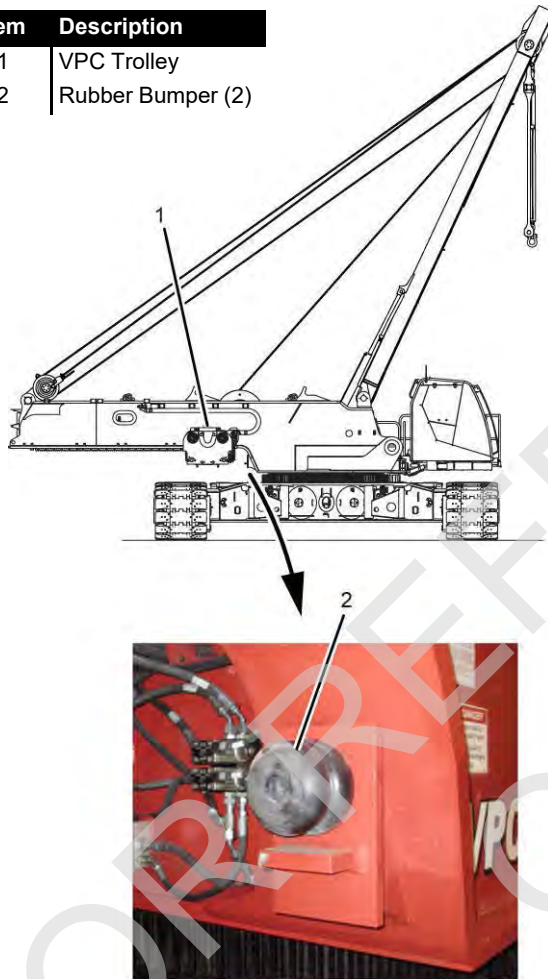

Figure 4-86
If the VPC trolley is not being removed for shipping, use the remote control to travel the VPC trolley (1, Figure 4-86) all the way forward until it is against the rubber bumper (2) on both sides of the rotating bed.